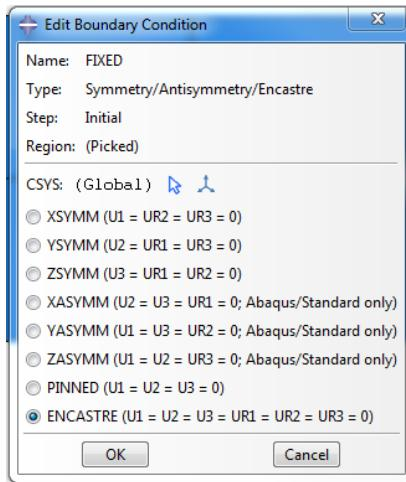

Figure 28. Edit Boundary Condition Dialog Box
- The **Edit Boundary Condition** dialog box will immediately appear. Click **ENCASTRE (U1=U2=U3=UR1=UR2=UR3=0)**. The **Edit Boundary Condition** dialog box should look identical to that in Figure 28.